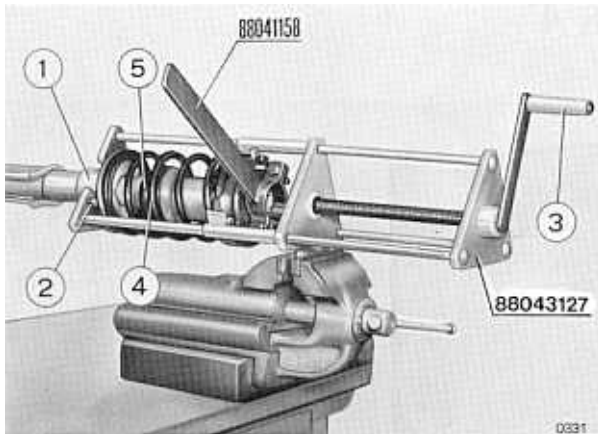

Fig. 07 4/3 - Fixture for disassembly and assembly of front suspension
- Apply the sliding ring (1) to the strut, turn the crank (3) and compress the spring (4) till it no longer presses on the bumper (5). See fig. 07 4/4.
- Use spanner 88041158 to hold the stem cup, unscrew nut (6), remove the washer (8), cup (7) and pad (8) from the stem, together with the spacer, shoulder washer, bush, bearing (10), thrust plate (11) and bumper (13).